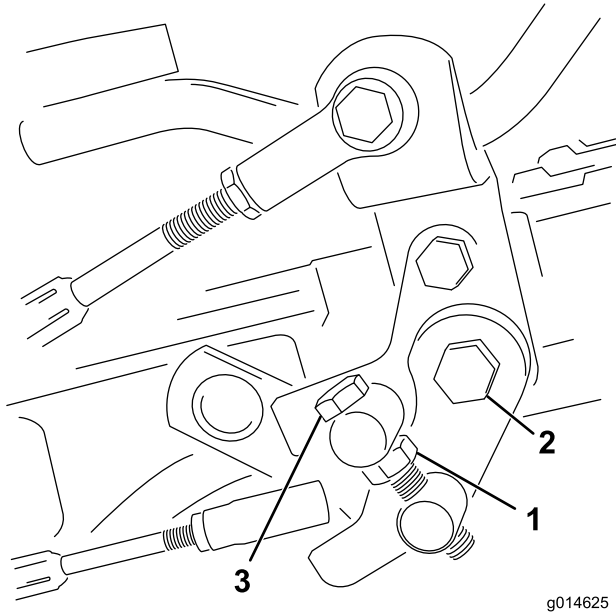

Figure 50
4. Tighten the jam nut on the trunnion bolt and the nut on the pedal pivot to lock the adjustment (Figure 50). Check the adjustment and adjust as required.